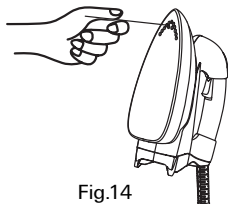

Fig.14
5. Since steam vents are small, to prevent steam vents being blocked by limescale, please clean steam vents with a ϕ 1.5mm steel pin after every 3-5 monthes's use.(See Fig.14)